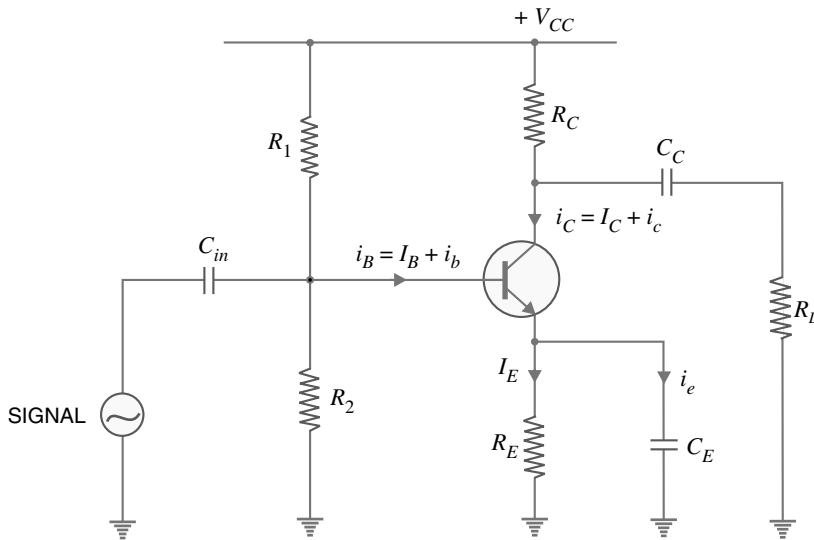
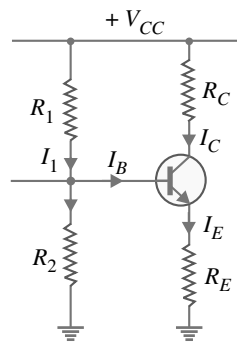
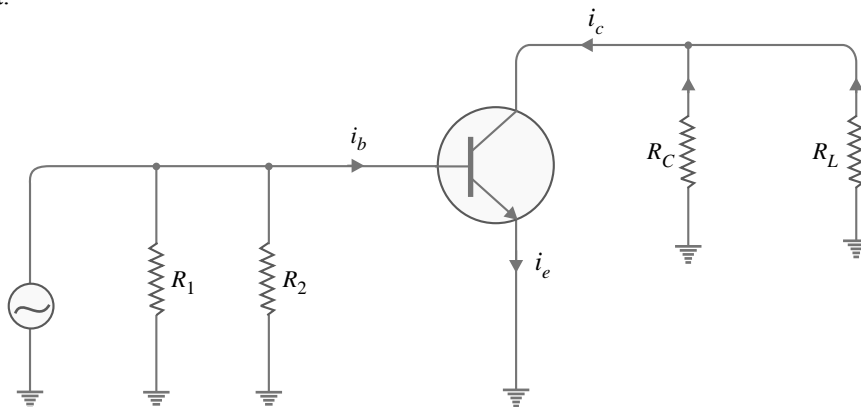

Fig. 8.12
Fig. 8.13
Fig. 8.14
In a transistor amplifier, both d.c. and a.c. conditions prevail. The d.c. sources set up d.c. currents and voltages whereas the a.c. source (*i.e.* signal) produces fluctuations in the transistor currents and voltages. Therefore, a simple way to analyse the action of a transistor is to split the analysis into two parts *viz.* a d.c. analysis and an a.c. analysis. In the d.c. analysis, we consider all the d.c. sources at the same time and work out the d.c. currents and voltages in the circuit. On the other hand, for a.c. analysis, we consider all the a.c. sources at the same time and work out the a.c. currents and voltages. By adding the d.c. and a.c. currents and voltages, we get the total currents and voltages in the circuit. For example, consider the amplifier circuit shown in Fig. 8.12. This circuit can be easily analysed by splitting it into *d.c. equivalent circuit* and *a.c. equivalent circuit*.
Applying these two steps to the circuit shown in Fig. 8.12, we get the d.c. equivalent circuit shown in Fig. 8.13. We can easily calculate the d.c. currents and voltages from this circuit.
Applying these two steps to the circuit shown in Fig. 8.12, we get the a.c. \*equivalent circuit shown in Fig. 8.14. We can easily calculate the a.c. currents and voltages from this circuit.
**Example 8.7.** For the transistor amplifier circuit shown in Fig. 8.12, determine :
**Solution.** Refer back to the transistor amplifier circuit shown in Fig. 8.12.
(i) The d.c. load for the transistor is Thevenin's equivalent resistance as seen by the collector and emitter terminals. Thus referring to the d.c. equivalent circuit shown in Fig. 8.13, Thevenin's equivalent resistance can be found by shorting the voltage source (*i.e.*  $V_{CC}$ ) as shown in Fig. 8.15. Because a voltage source looks like a short, it will bypass all other resistances except  $R_C$  and  $R_E$  which will appear in series.
Referring to the a.c. equivalent circuit shown in Fig. 8.14, it is clear that as far as a.c. signal is concerned, resistance  $R_C$  appears in parallel with  $R_L$ . In other words, transistor amplifier sees an a.c. load equal to  $R_C \parallel R_L$  *i.e.*
(ii) Referring to d.c. equivalent circuit of Fig. 8.13,